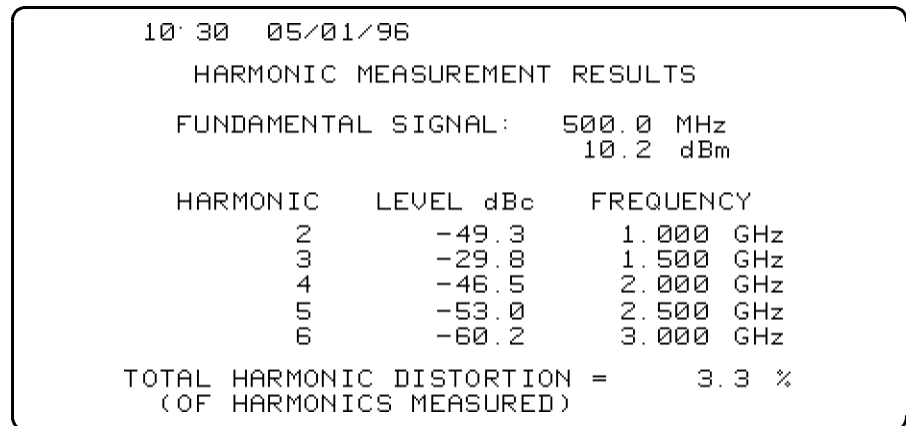

Figure 2-7. Harmonic Measurement Results
6. Press **MEASURE HARMONIC**. The utility makes the measurement and displays the results on the screen, as shown in Figure 2-7. Press **HARD COPY** to access a menu to print or plot the results.